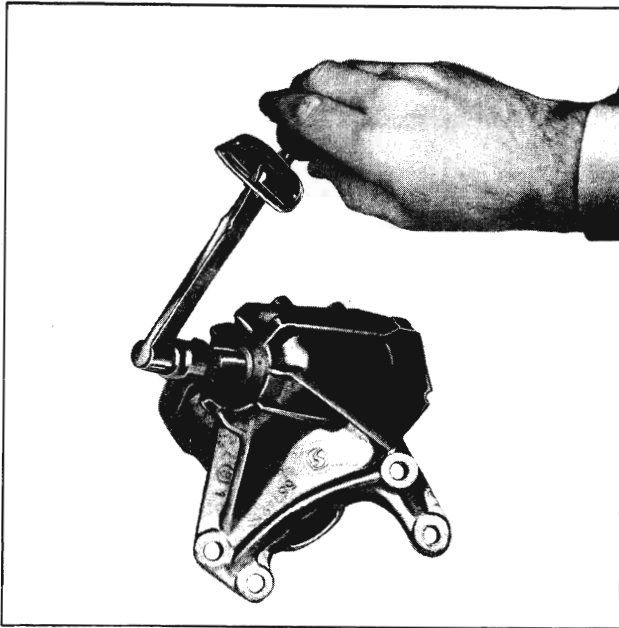

Fig. 4-224 Checking Worm Bearing Preload
3. Using an inch pound torque wrench, measure the pull required to keep the worm shaft in motion at about 30° off the center position. (Fig. 4-224)